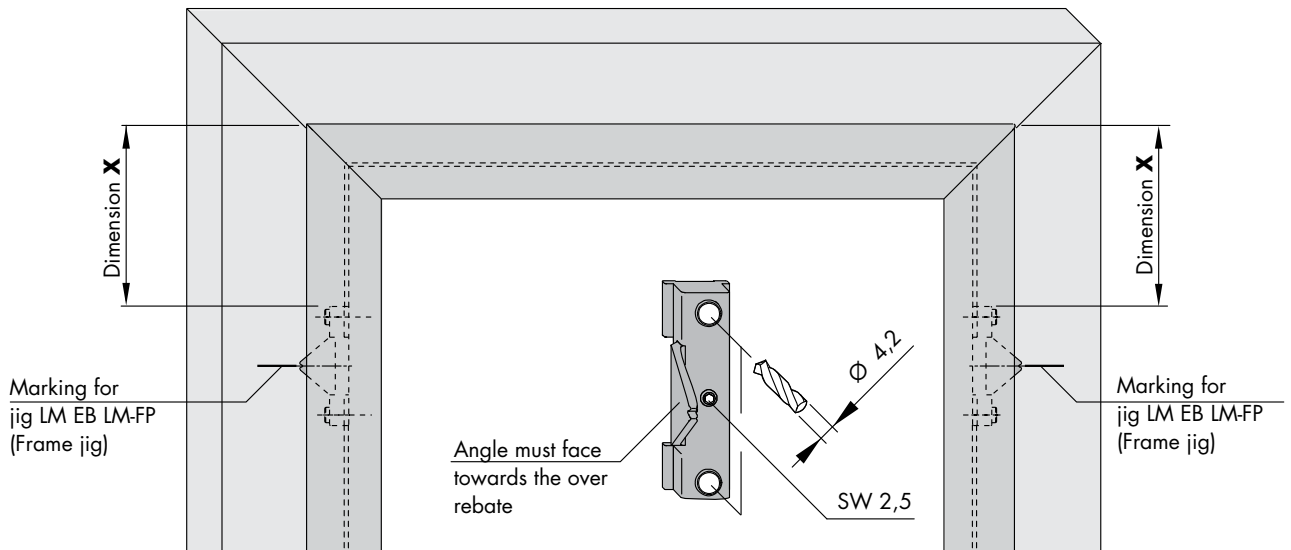

Figure 1
10. Drill holes  $\text{Ø } 4.2$  for stop plate (6) (see Figure 1).
11. Make markings for jig LM EB LM-FP (frame jig) on frame (see Figure 1).